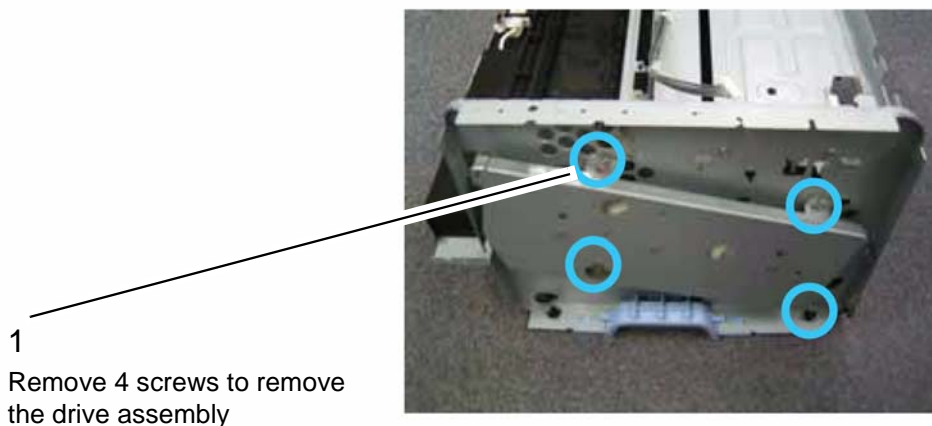

Figure 1
1. Remove the drive assembly, Figure 1.